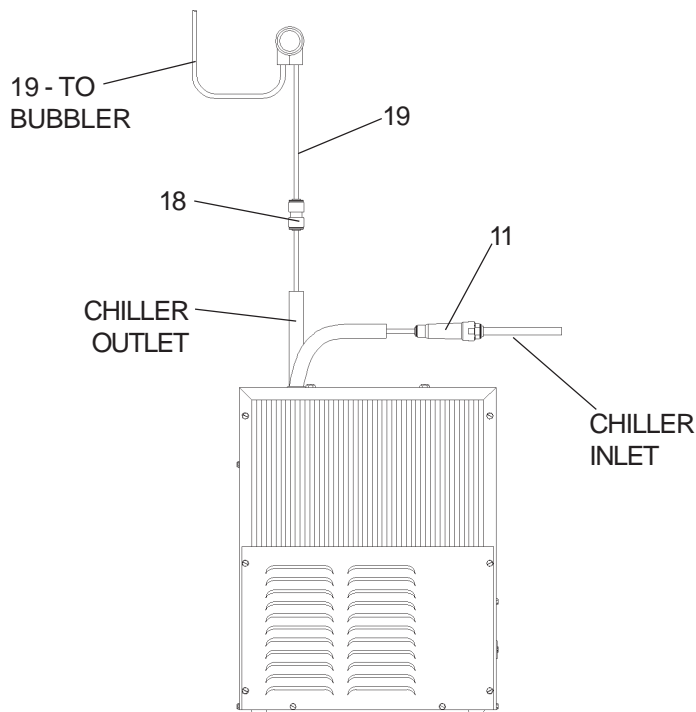

FIG. 4
2. Make water supply connections. The inlet port is marked on the chiller (1/4" O.D. copper tube). Bend the copper tube (provided) at an appropriate length from chiller to opening in frame. Install the in-line strainer (provided with chiller) by pushing it in until it reaches a positive stop, approximately 3/4" (19mm) on the marked chiller inlet port. Attach an unplated and deburred copper water inlet line and a service stop (not provided) to the in-line strainer. Turn on the water supply and flush the line thoroughly. **DO NOT SOLDER TUBES WHILE INSERTED INTO THE STRAINER AS DAMAGE TO THE O-RINGS MAY RESULT.** (See Fig. 4)
4. Install the fountain. Remove access cover plate on underside of fountain and save the screws. Mount the fountain to the upper panel and the wall frame with (4) 5/16" x 3/4" (19mm) long bolts and nuts (provided). Tighten securely.
6. Make connections between remote chiller outlet tube and fountain. Outlet port is marked on the chiller (1/4" O.D. copper tube). Install a 1/4" union (provided) on the marked chiller outlet port. Insert the 1/4" poly tubing coming from the fountain into the union. Turn on the water supply and check for leaks. **DO NOT SOLDER TUBES WHILE INSERTED INTO THE UNION AS DAMAGE TO THE O-RINGS MAY RESULT.** (See Fig. 4)